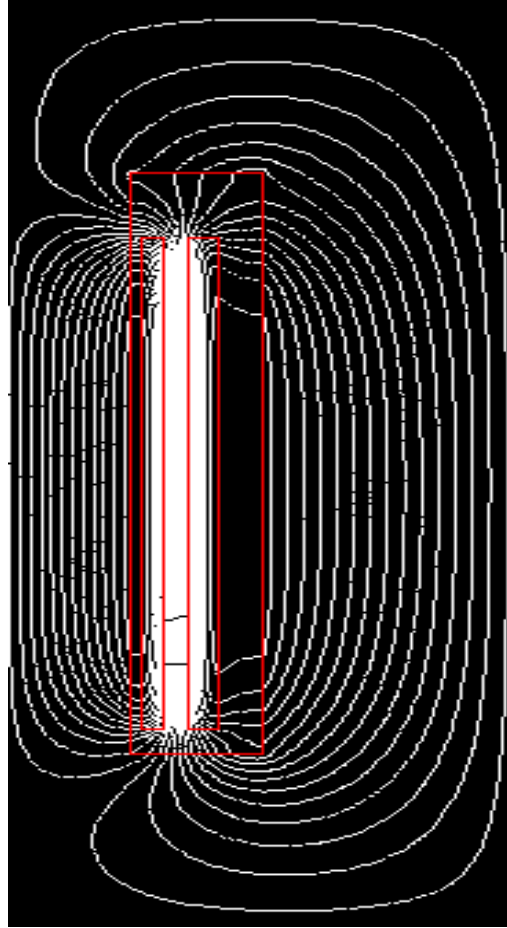

Figure 1. Magnetic vector potential plot
8. Plot the equipotential lines (magnetic flux lines in this case). Since the ampere-turns defined for both the windings are equal but with opposite signs, the net ampere-turns enclosed by the magnetic circuit is zero. Thus, there should not be a single line in the core part enclosing both the windings. You will observe a bunch of lines enclosing LV winding and the remaining ones enclosing HV winding, as shown in the figure 1 below.